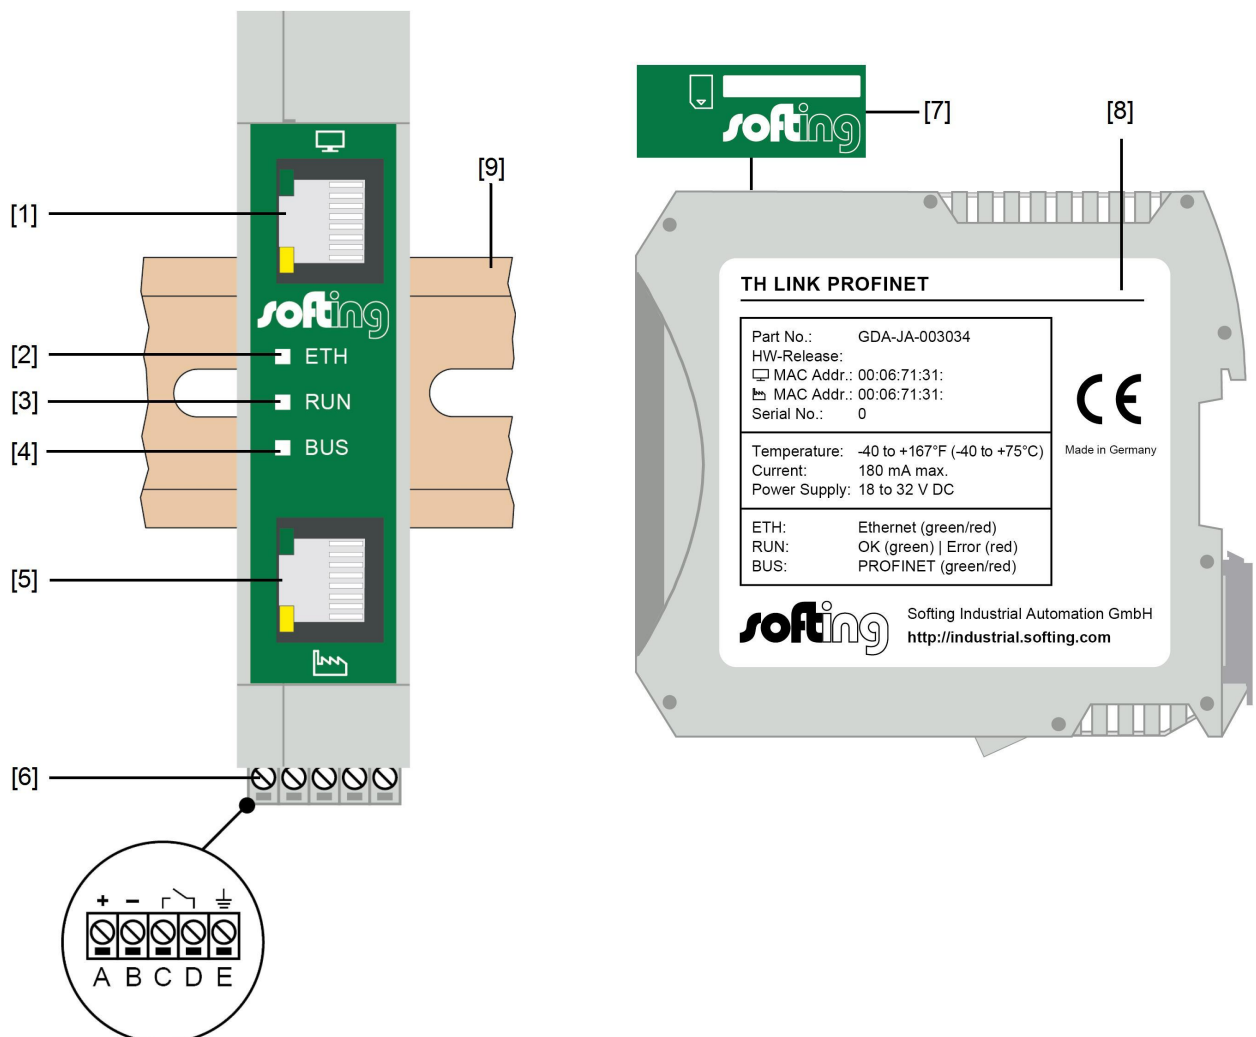

Figure 1: TH LINK (front and lateral view)
- a. At the upper Ethernet interface with the monitor icon (see figure 1 no. [1]) the office network is connected, from which the access to the automation network should be done.
- b. At the lower Ethernet interface with the factory icon (see figure 1 no. [5]) the automation network is connected that should be monitored.
- a. Connect the TH LINK with the lower Ethernet interface with the factory icon (see figure 1 no. [5]) in the automation network.